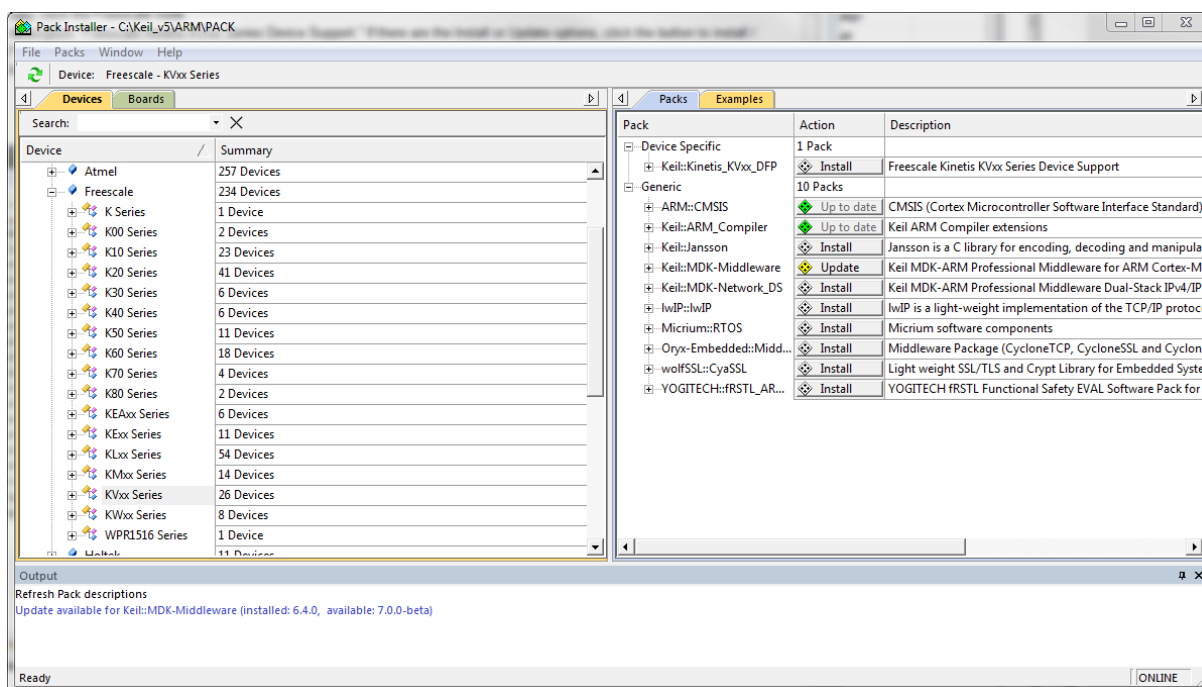

Figure 1-23. Pack Installer
6. Look for a node called "Keil::Kinetis_KVxx_DFP." If there are the Install or Update options, click the button to install/update the package. See Figure 1-23.